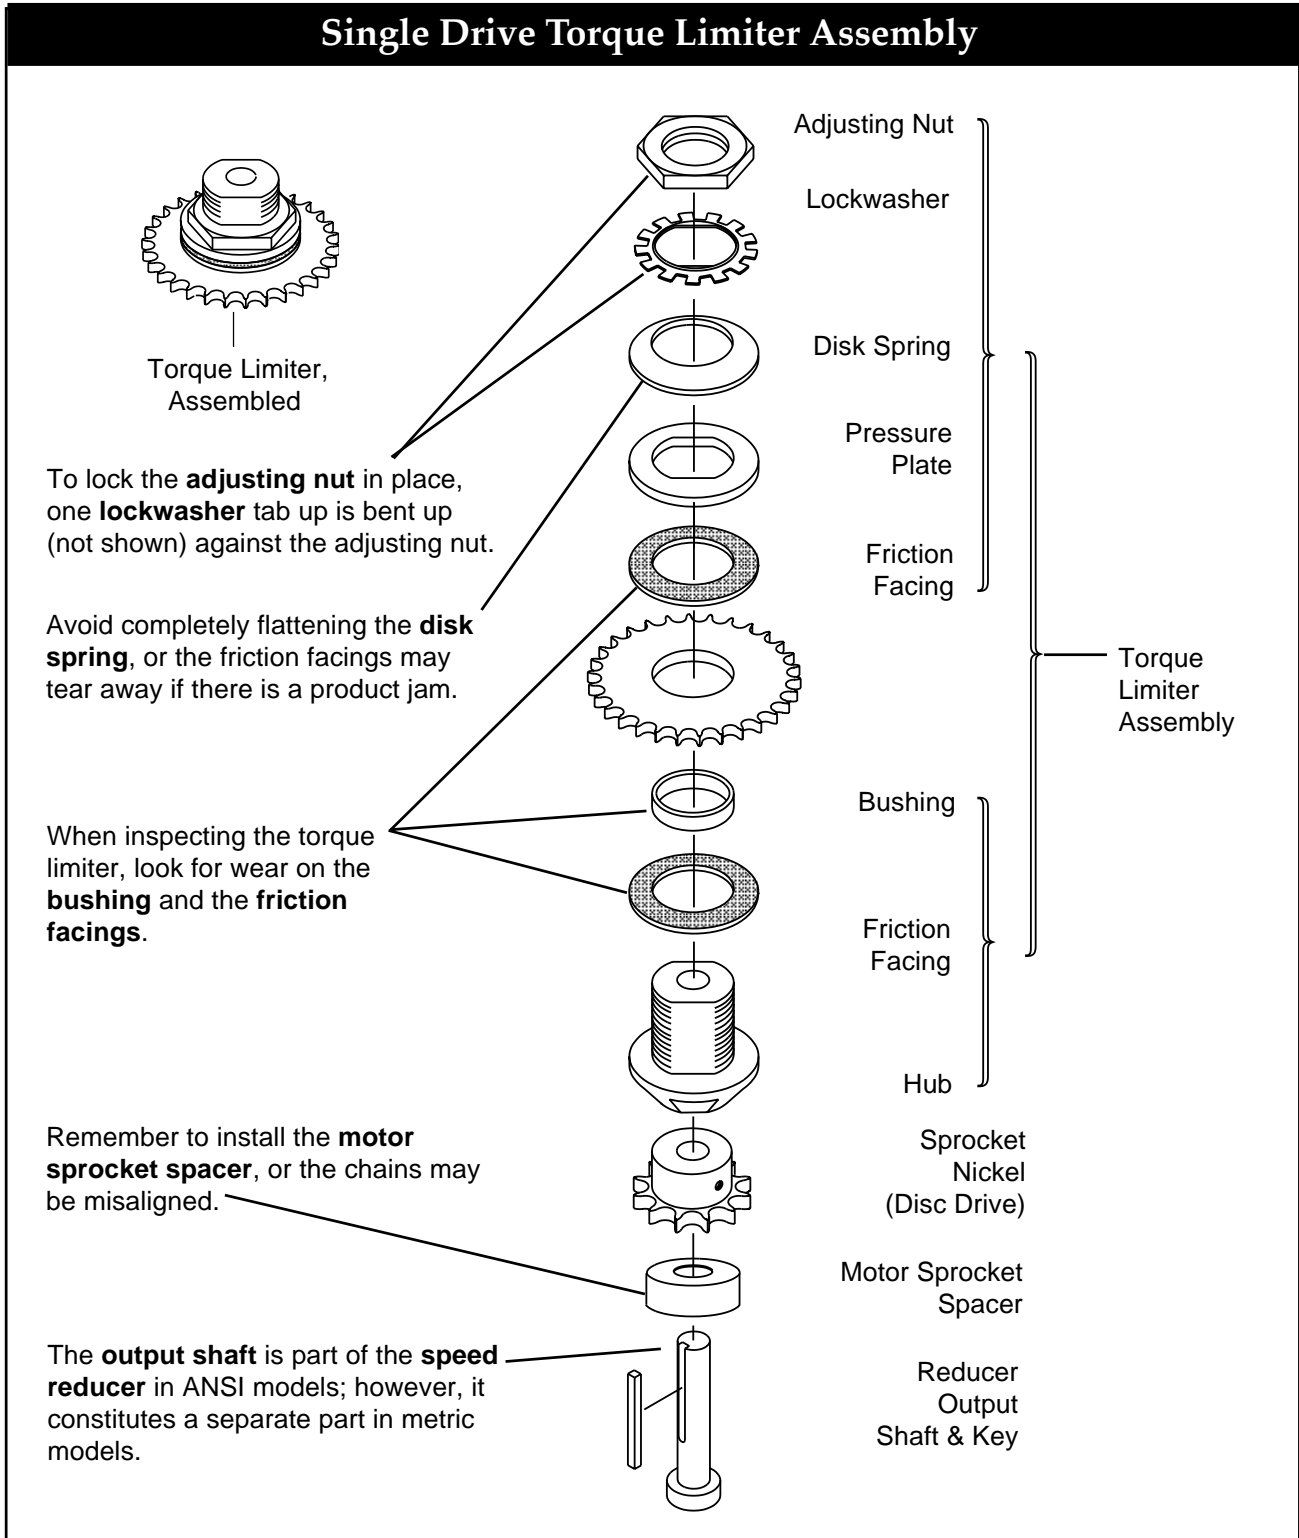

Figure 5-1. Torque Limiter Assembly (Nickel Plated)
**Step 3—Remove Torque Limiter.** Remove and disassemble torque limiter. (See Figure 5-1) Inspect and replace any broken or worn parts. Observe order of components.
**Step 4—Assemble and Install the Torque Limiter.** Clean parts before re-assembly. Assemble the torque limiter (as shown in Figure 5-1.) Tighten adjusting nut hand tight. Install the torque limiter.
**Step 6—Adjust Torque Limiter.** Tighten the adjusting nut (see Figure 5-1) down until the bowl turns when power is applied with minimum slippage. Do not completely flatten the disk spring. Also do not lock the adjusting nut yet. You will lock the adjusting nut after turning on the motor. Some slippage must occur to prevent damage, however, there should be no slippage if the bowl is at maximum rotation.
**Step 4—Reducer Installation.** Remove the torque limiter and reducer mounting brackets from the old reducer and install them on the new reducer. Slide the torque limiter assembly down onto the reducer output shaft until it bottoms out against the roll pin (see Figure 5-1). Tighten setscrew.
**Step 5—Assemble Output Shaft.** Unlike the ANSI speed reducer, which includes an integral output shaft, the output shaft on the metric speed reducer comes as a separate kit. If replacement is required, clean both contact surfaces before assembly and apply any appropriate anti-seize compound to avoid oxidation (rust) and possible seizing of parts. Slide the torque limiter assembly down onto the reducer output shaft until it bottoms out against the roll pin (see Figure 5-1). Tighten setscrew. The speed reducer used in the metric FTF-30-RD feeder is lubricated for life with synthetic lubricant and requires no filling before use.